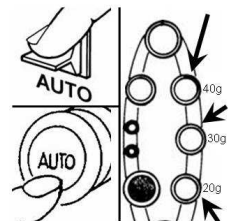

fig. 6
- Press and hold the switches AUTO 20g 30g 40g (fig. 6)